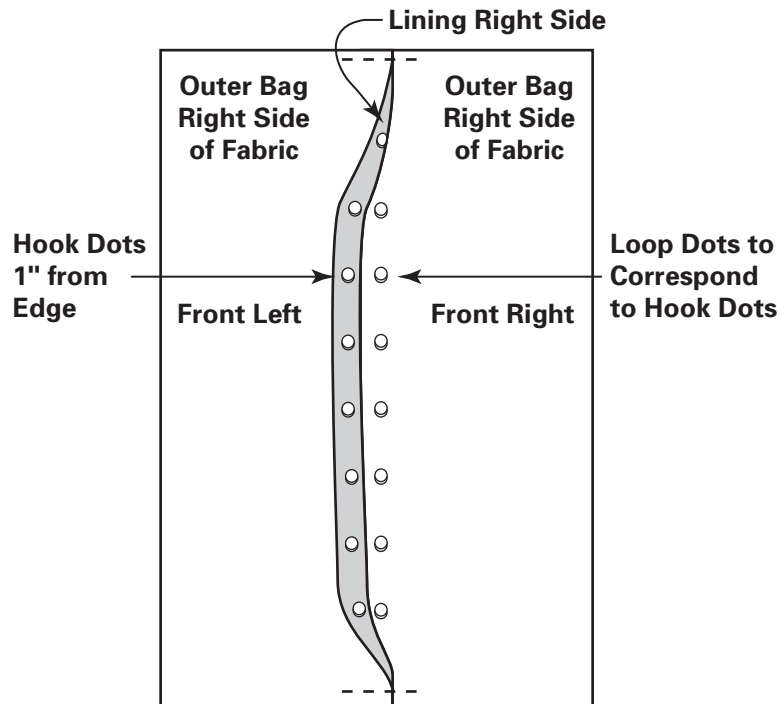

Fig. 21-4 Sew the hook-and-loop dots to each panel.
6. To sew the hook-and-loop dots to the overlapping edges, mark eight, evenly-spaced placements along the inside of the left panel edge (the overlapping edge), 1 inch (2.5 cm) from the edge. Mark the corresponding placement for each dot on the right panel. (Fig. 21-4) Machine-stitch or hand-sew the hook dots to the left panel and the loop dots to the right panel.